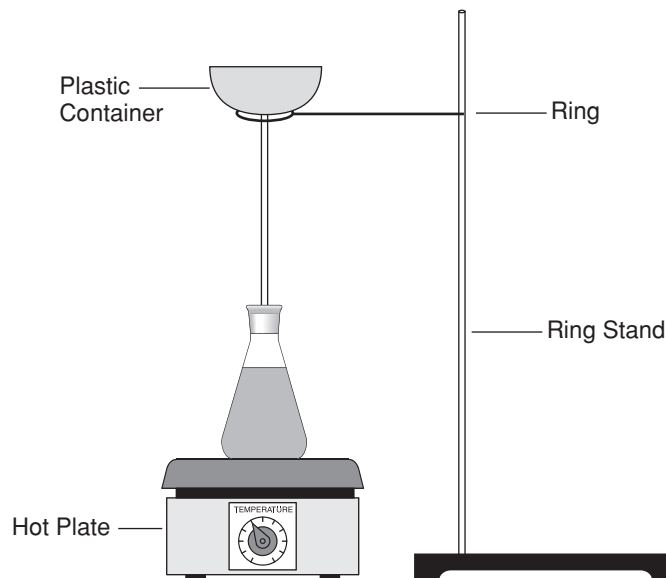

Figure 2.
10. Place the support ring under the bottom of the plastic container and tighten the ring to the ring stand (see Figure 2 on page 2). This will help support the weight of the water that will be added to the plastic container.